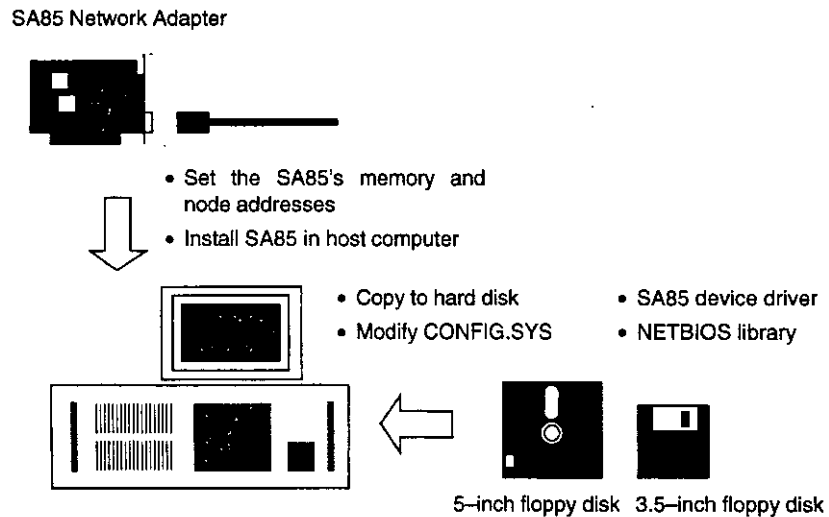

Figure 3.1
- 5) *Figure 3.1* briefly illustrates how to install the SA85 in the host computer.